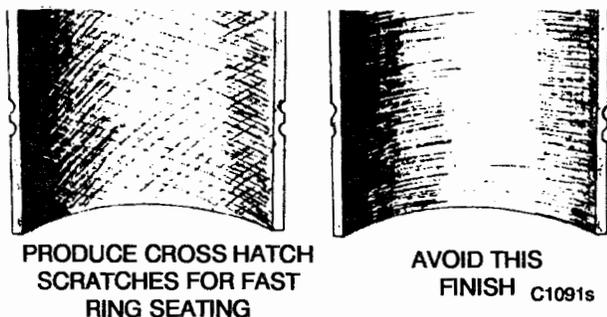

FIGURE 9-32. CROSSHATCHING
3. The deglazing tool should be driven by a slow-speed drill. Move the deglazing tool up and down in the cylinder (10 to 12 complete strokes) rapidly enough to obtain a crosshatch pattern, as shown in Figure 9-32.